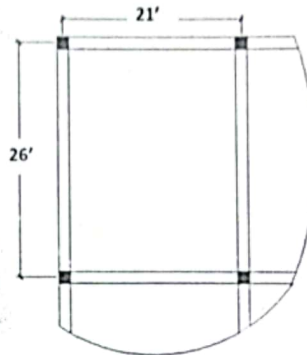

Fig. 4
- b) A monolithic reinforced concrete floor is to be composed of rectangular bays measuring 21×26 ft, as shown in Fig. 4. Beams of width 12 in and depth 24 in are provided on all column lines. The floor is to be designed to carry a service LL of 137 psf uniformly distributed over its surface, in addition to its own weight. Use $f'_c=3$ ksi, $f_y=60$ ksi. Calculate the required slab thickness and reinforcement for the corner panel shown.